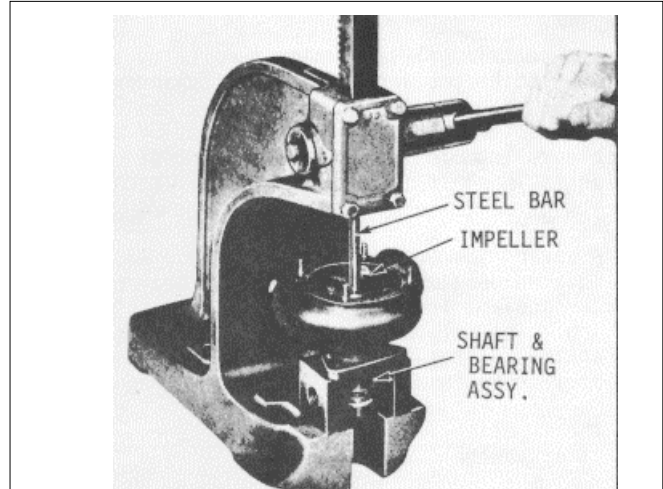
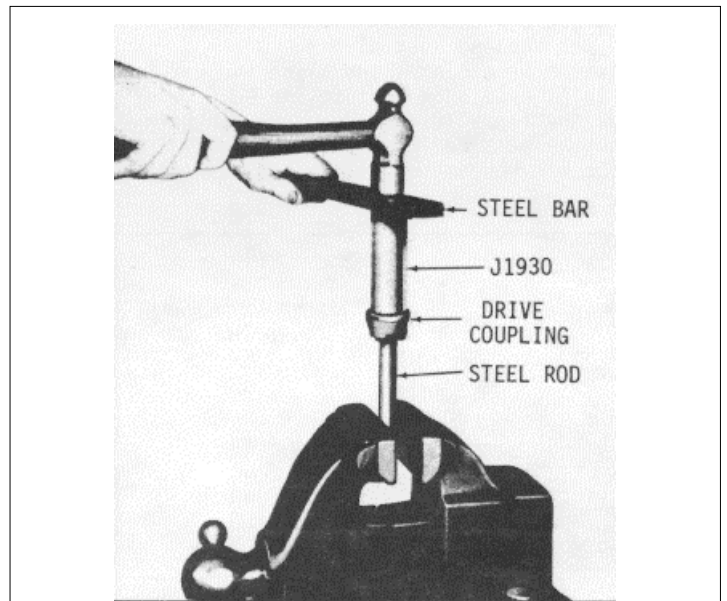

Fig. 4
Fig. 5
- (2) Support the pump on its mounting flange in an arbor press (Fig. 4). Place a short steel rod on the end of the shaft and press the shaft and bearing assembly from the impeller, seal and pump body. If the impeller is pinned to the shaft, considerably more pressure will be required to shear the pin.
- (3) Remove the impeller and seal assembly from the pump body.
- (4) If the steel insert is worn or scratched excessively, tap or press it out of the pump body.
- (5) Remove the water slinger from the shaft.
- (6) If the impeller was pinned to the shaft, remove the sheared taper pin from the shaft and impeller by tapping against the small end of the pin with a punch and hammer.
- (7) If necessary, remove the pump drive coupling from the shaft with tool J 1930 as shown in Fig. 5.